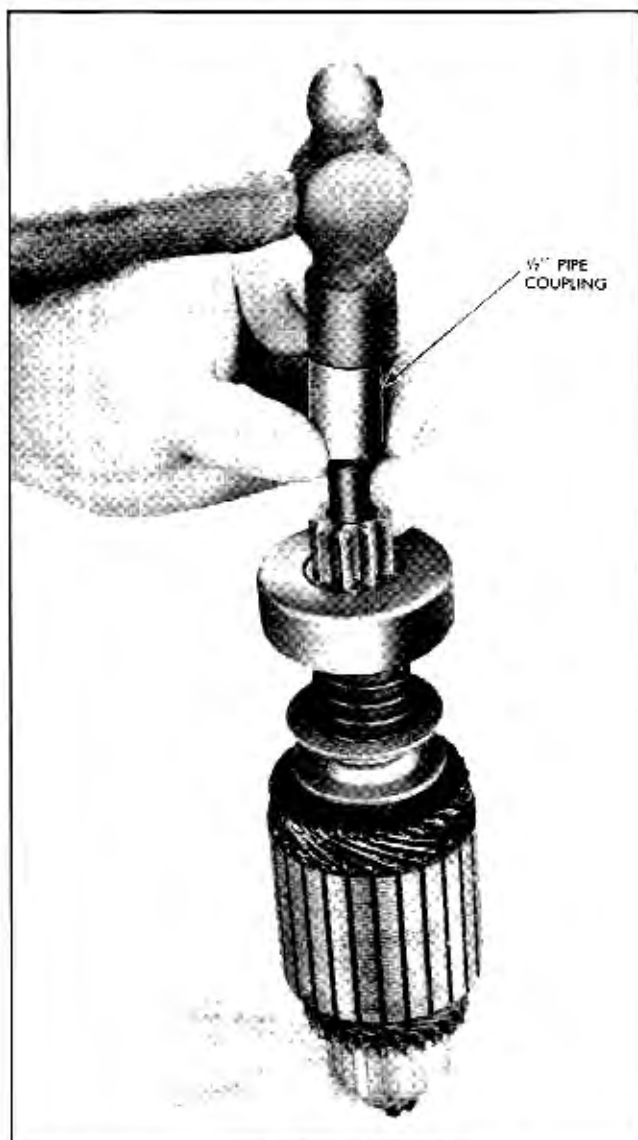

Fig. 12-37 Driving Retainer Off Snap Ring
b. Slide a standard half inch pipe coupling or other metal cylinder of suitable size (an old pinion of suitable size can be used if available) onto shaft so end of coupling or cylinder butts against edge of retainer (Fig. 12-37). Tap end of coupling with hammer, driving retainer towards armature and off snap ring.